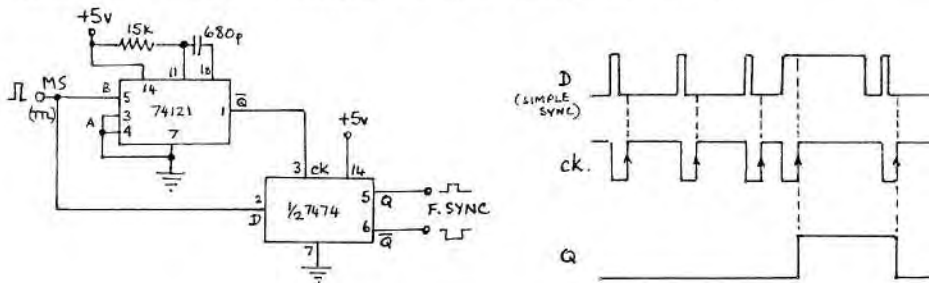

Fig.15
In Fig.15 I have shown an alternative method of field sync pulse separation that doesn't rely upon integration, and works equally well for simple or CCIR spec sync. It uses a D-type latch and a non-retriggerable monostable. The monostable has a period just longer than line-sync - in this case 6.8uS - and it is triggered by MS. The trailing-edge of the output is used to clock the D-type, with MS as the data (D) input. The effect is to give a field pulse output that is accurately delayed by 6.8uS (the period of the mono), and that is shorter and more predictable than by the integration method.